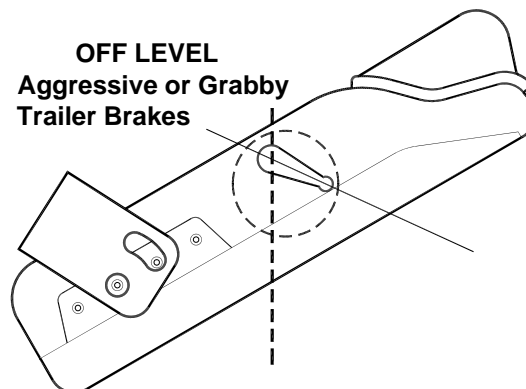

Figure 6 – aggressive or grabby brakes
2. Pendulum leveling arm adjusted too far toward the front of the controller (Figure 6):
- B. If the controller is not adjusted correctly; the trailer brakes can possibly pulse with 4-way flasher lights. (Figure 6)